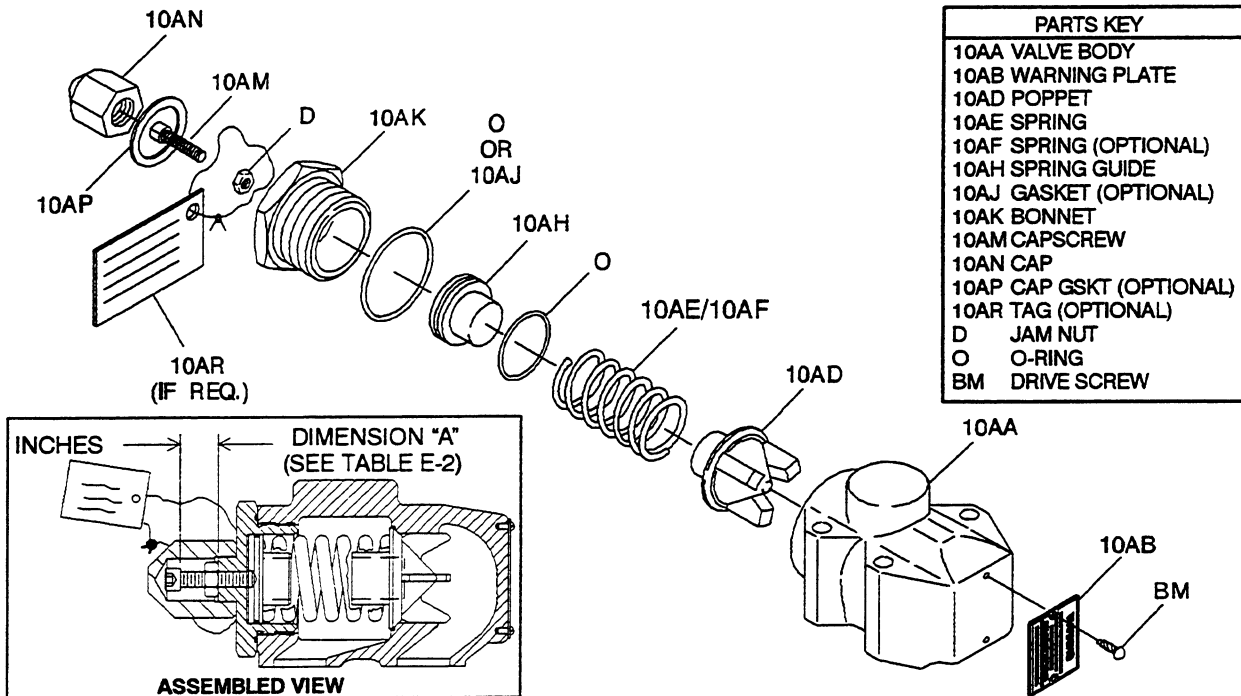

Figure E-5. S Hydraulic Size Pressure Relief Valve Assembly
"T" style relief valves are equipped with gaskets (10C, Figure E-6) to seal between the relief valve and the head (01A). The relief valve on "S" style (Figure E-5) pumps are equipped with O-rings (O). Remove and discard the gaskets or O-rings.
(Figure E-5)
Install the jam nut (10D) on the adjustment capcrew (10AM) and thread the capcrew into the bonnet until the desired height ("A", Figure E-5) is reached. Refer to the separate Parts List accompanying your pump and determine the spring option code (STD, 25D, etc.) for your pump. See Table E-2 and adjust the capcrew (10AM) to the proper "A" dimension for the desired cracking pressure.